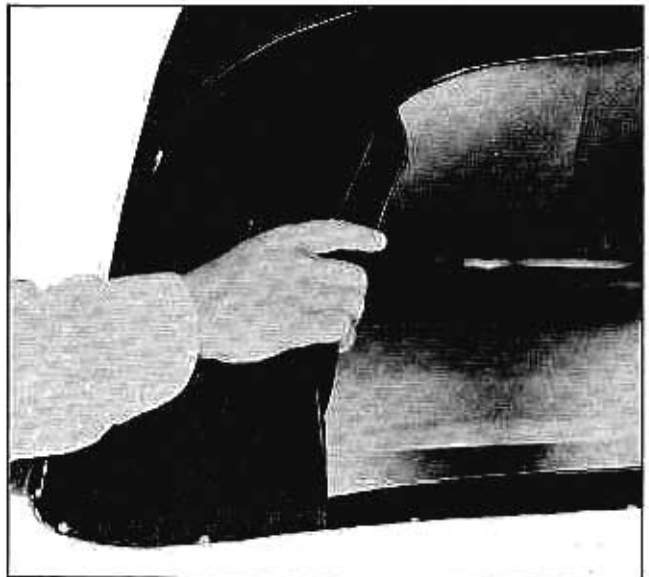

Fig. 7-15 Tuck in Flaps
2. On outside of car after window has been raised, tuck top flaps into valance along right and left side of window opening (Fig. 7-15).